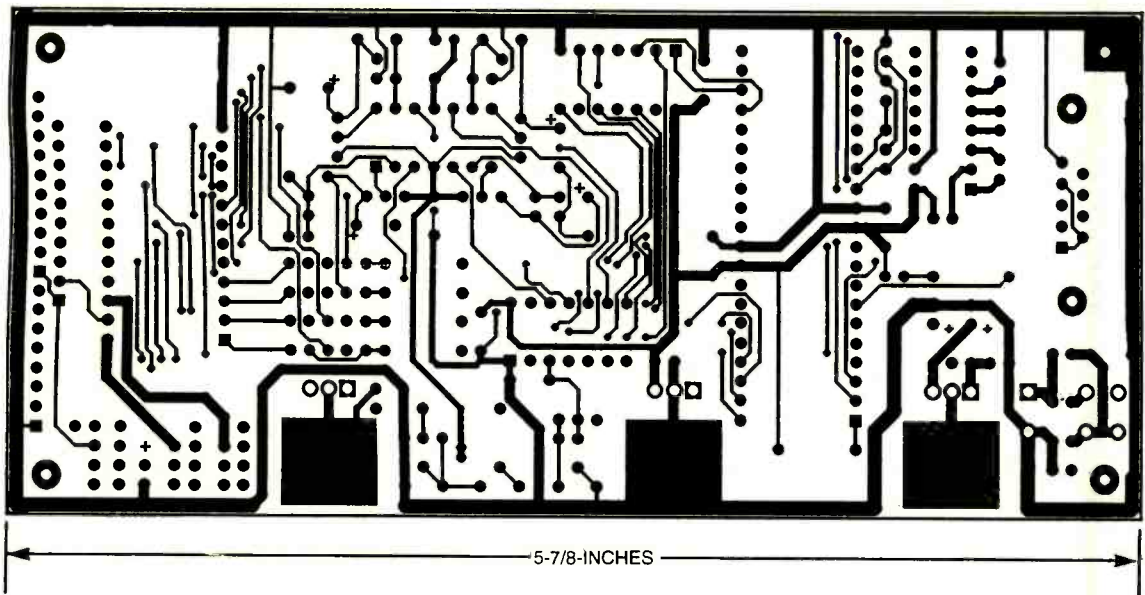

Fig. 3. The Alta Pro 2000 is best built on a PC board. Here is the foil pattern for the component side of such a board.
If you are interested in designing filter circuits with specific responses, an Excel spreadsheet is available to assist you with the math. The basic filters shown in Fig. 3 are modeled up to nine elements. Point your browser to [ftp.gernsback.com/pub/pop/filter\\_tables.xls](http://ftp.gernsback.com/pub/pop/filter_tables.xls) to download.
**Building The Alta Pro 2000.** It is best to build the Alta Pro 2000 on a double-sided PC board with plated-through holes. Since the board is quite dense, a professionally made board with a solder mask and silk screen might be easier. A PC board is available from the source given in the Parts List. For those that would like to make their own board, foil patterns are shown in Figs. 3 (component side) and 4 (solder side).